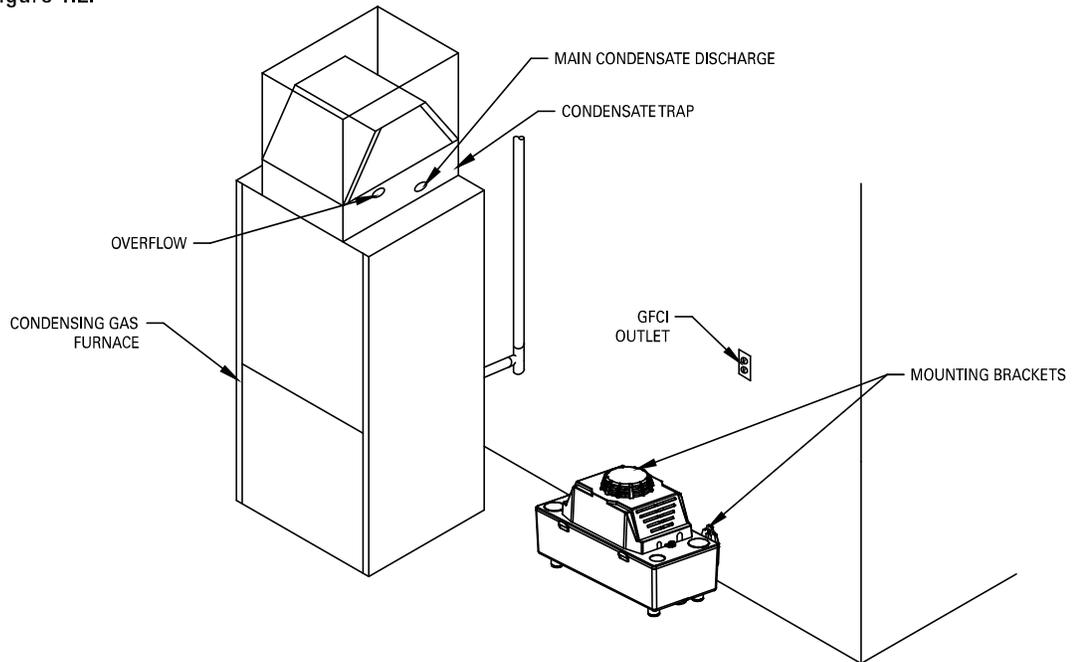

Figure 1.2
- 1.2) The unit has two mounting brackets built into the deck so the pump can be attached to the wall or side of the appliance. Refer to Figure 1.2.